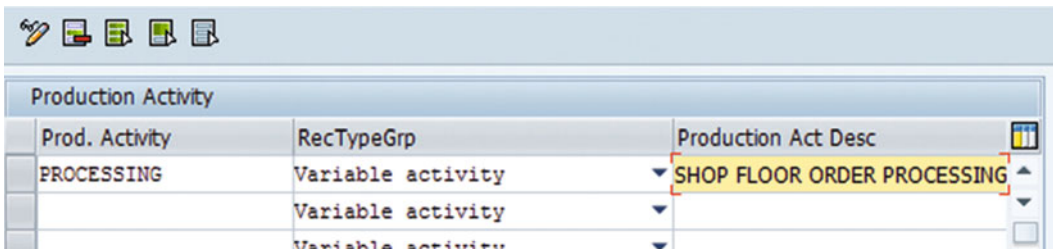

Figure 3-18. Configuration of production activities
2. Select New Entries (refer to Figure 3-18).